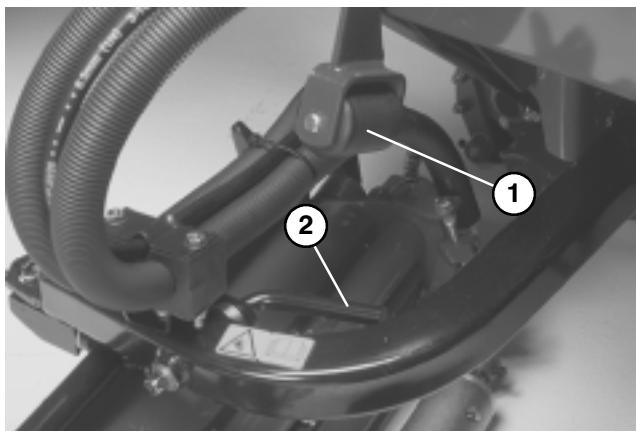

**Figure 11**
11. Detach chain from lift arm and secure it to cross tube on each rear cutting unit with a capscrew, flatwasher and locknut (Fig. 11).